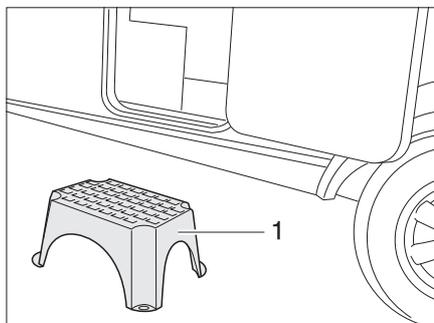

Fig. 17 Entrance step (free-standing)
- Place the entrance step (Fig. 17,1) in front of the entrance to the caravan.